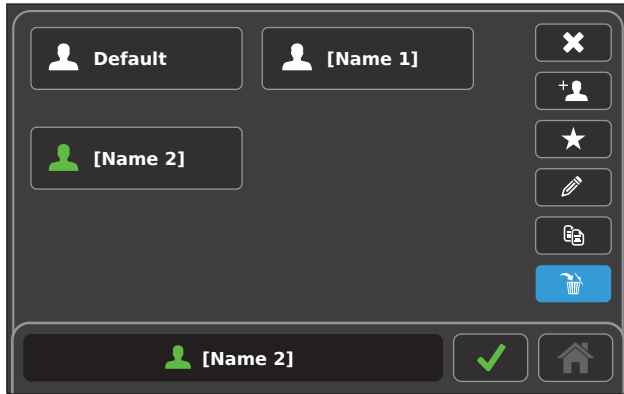

Figure 66 – Delete Preset Selection
2. Touch the desired preset to be deleted. Touch the DELETE button (Figure 66).